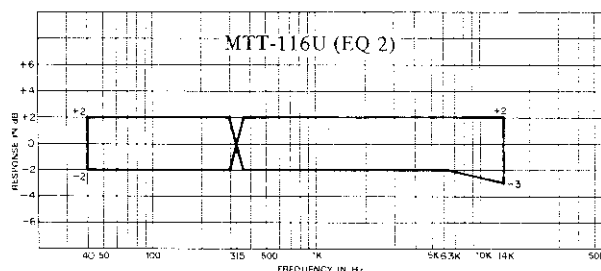

Fig. 7-7 Frequency Response Limits
2. Compare the readings obtained, on the Test Set (AC VTVM) with response limits given in Fig. 7-7.